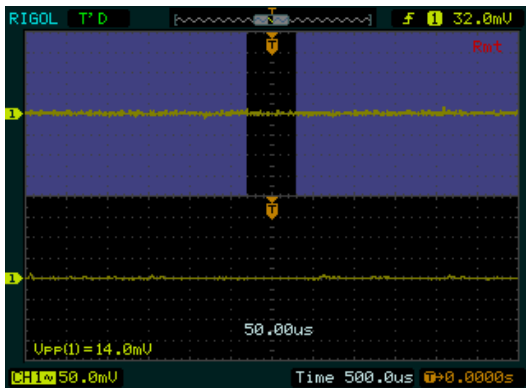

Figure 2. +5V Supply Ripple
2. In turn connect the CH1 probe to each of the power supply outputs and examine the ripple voltage. The waveforms of Figures 2 through 7 show the typical ripple voltage when the delayed sweep function is enabled and horizontal time base adjusted to 50 $\mu$ SEC (x10).